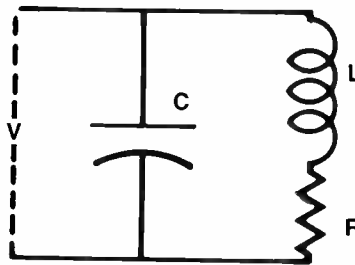

Figure 2. Parallel resonance with R present. Note that I_L and I_C do not completely cancel because of OV_R .
Figure 2 shows a circuit with resistance (R) in series with the inductance. The voltage (V) that exists across the coil and capacitor is shown by vector OV at 0°. The current I_C leads V by 90°, as shown by vector OI_C on the positive Y axis, which is 90° ahead of OV. Correspondingly, vector OI_X depicts the 90° lag of the current I_L behind V.
current lagging or leading. As the circuit in Figure 2 illustrates, the resistance is in series with the coil, so there will be less than 90° of current lag in the inductive arm of the circuit. The lower the Q of the coil is, the greater the effect will be. If Q were high, the effect of R would be much less, and I_L would have almost 90° of lag behind V. In Figure 2, it is assumed that Q is high, so the effect is small, and OI_L is shown with approximately 20° less lag. Because the voltage across it must lead, vector OV_L is drawn with a 90° lead.
Now we can consider what happens at true resonance. The Y axis components should be equal in magnitude and 180° out of phase. This is shown by OI_C and OI_X in Figure 2. When these two are added, they will cancel, and only vectors